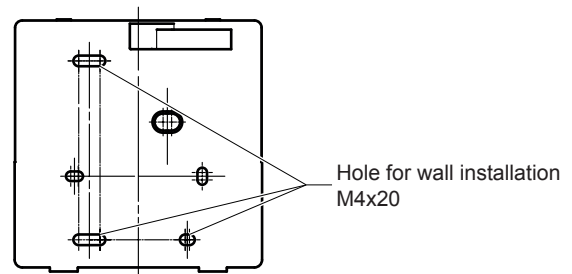

Fig. 5.2
2. Use three M4x20 screws to install the upper cover directly onto the wall. (Fig.5.2)